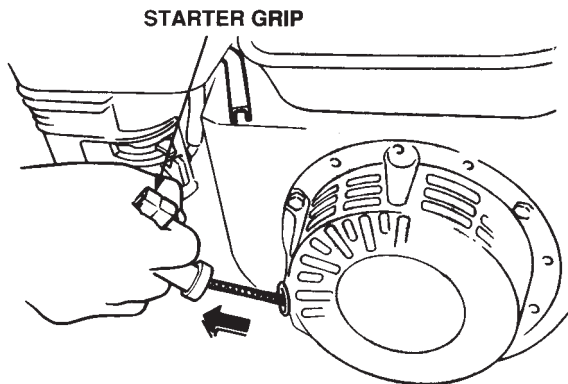

Figure 17. Starter Grip
6. Grasp the starter grip (Figure 17) and slowly pull it out. The resistance becomes the hardest at a certain position, corresponding the compression point. Rewind the rope a little from that point and pull out sharply.